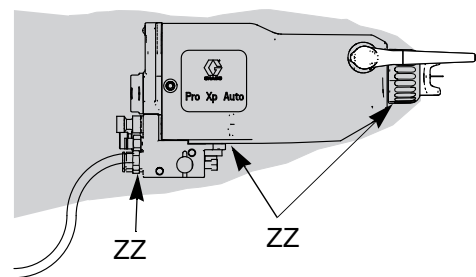

FIG. 12. Check for Fluid Leakage
During operation, periodically check all openings of the gun shroud (ZZ) for the presence of fluid. See FIGURE 12. Fluid in these areas indicates leakage into the shroud, which could be caused by leaks at the fluid tube connections or fluid packing leakage.